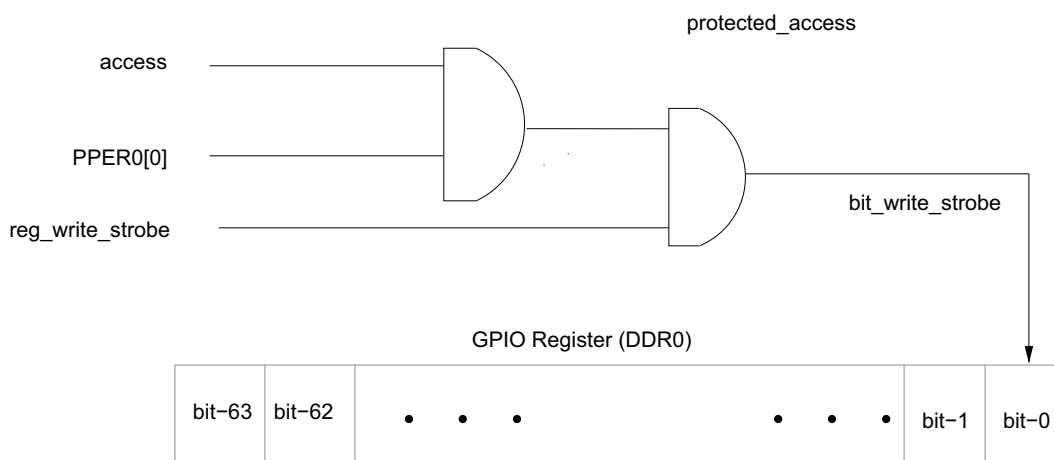

Figure 6-92: Bit-wise write protection logic
All GPIO Module registers (except PPERn and PIDRn) are bit-wise write protected. Figure 6-92 describes bit-wise write protection for single bit of a write protected register.
- Individual write strobe for each bit is generated with logical AND operation of register write strobe with corresponding PPERn bit (as described above and shown in Figure 6-92: "Bit-wise write protection logic").